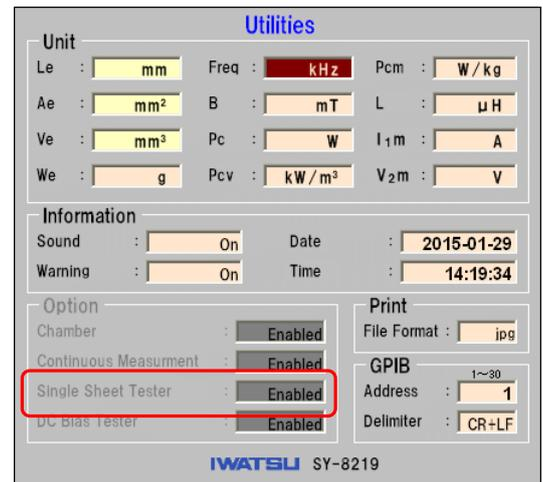

Fig. 4-15 Utilities screen
- Under Options, confirm that Single Sheet is Enabled. (See Fig. 4-15)